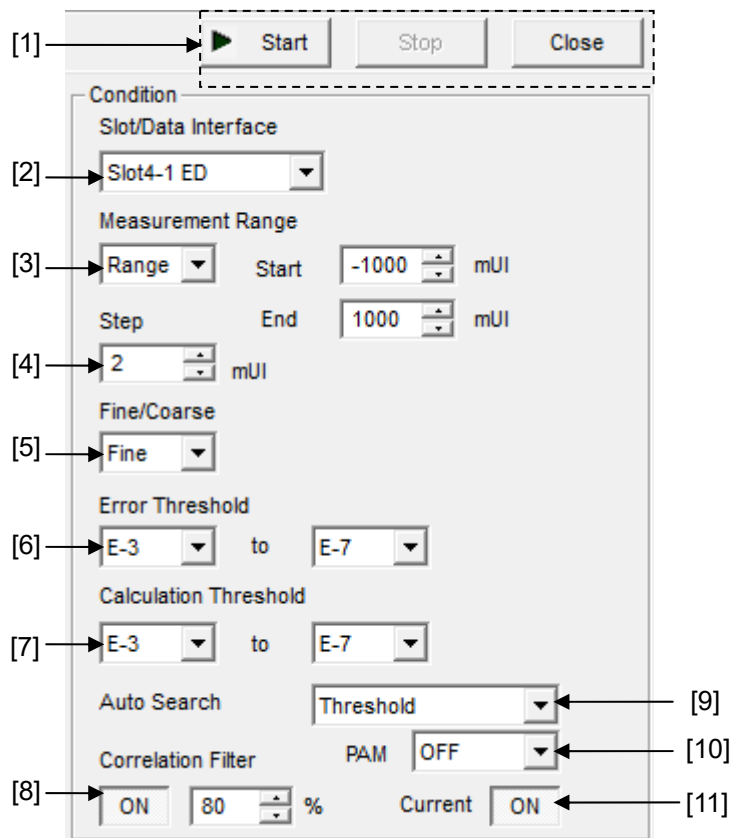

Figure 5.13.2-3 Measurement control area
- [8] Specify whether to show the Max and Step value display indicated by [7] in Figure 5.13.2-2.